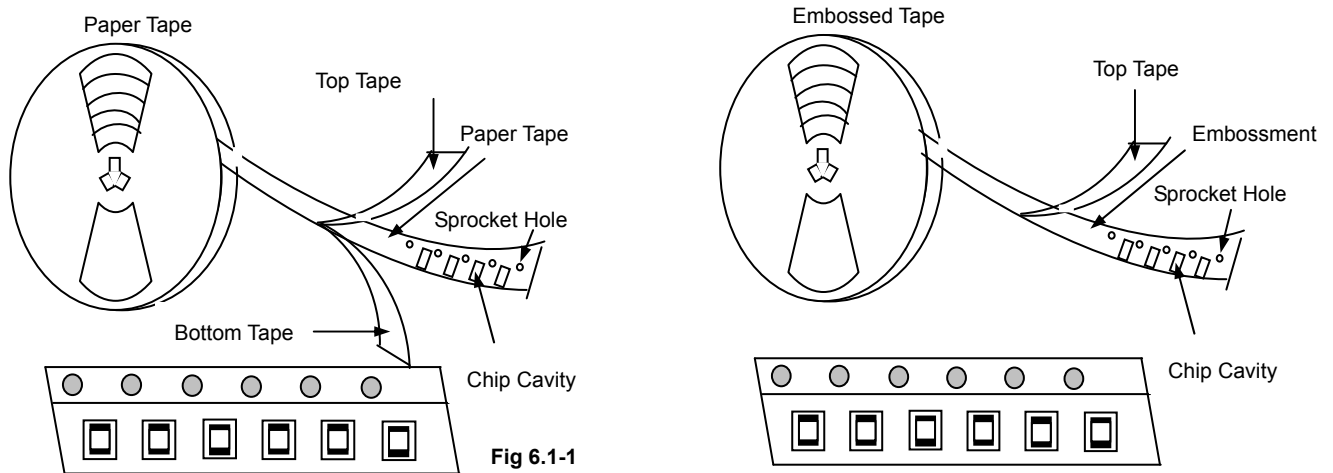

Fig 6.1-1
- Tape carrier packaging are specified in attached figure **Fig. 6.1-1~4**